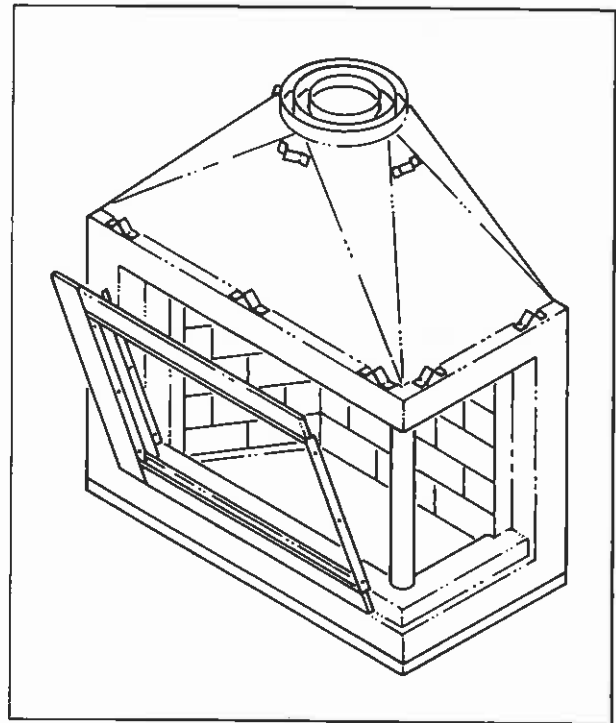

Fig. 6. Position the front frame assembly.
**STEP 2:** Lift door frame and trim assembly by the side supports and position the bottom of the assembly into the bottom of the fireplace opening (Fig. 6). While pushing the bottom down and in, swing the top of the assembly into position.